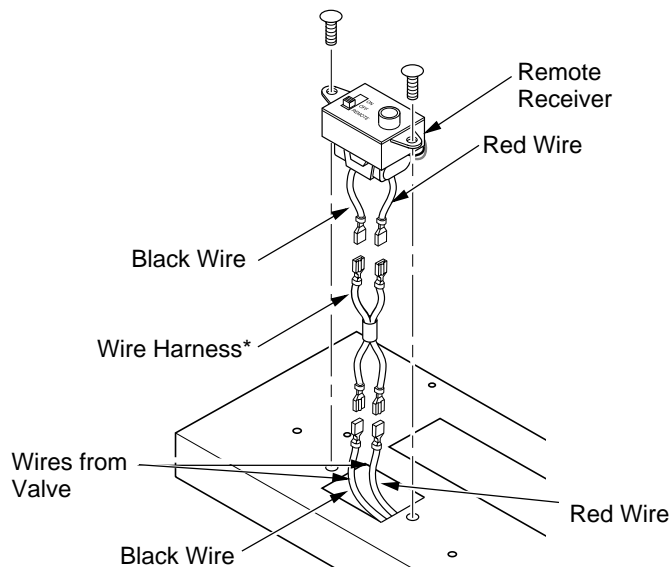

Figure 38 - Installing Remote Receiver
7. Connect wires as shown in Figure 38, page 21.
8. Install remote receiver unit onto fireplace base using the two screws removed in step one (see Figure 38, page 21).